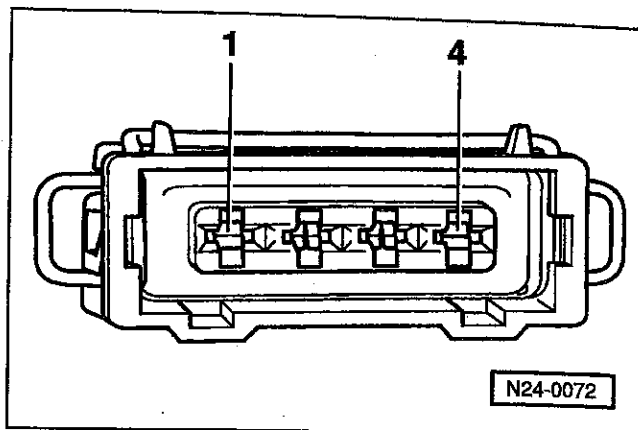

Fig. 16. Mass air flow (MAF) sensor harness connector terminal identification.
2. Turn the ignition key on and check for voltage between terminals 1 (-) and terminal 3 (+) in the harness connector. See Fig. 16 for terminal identification.